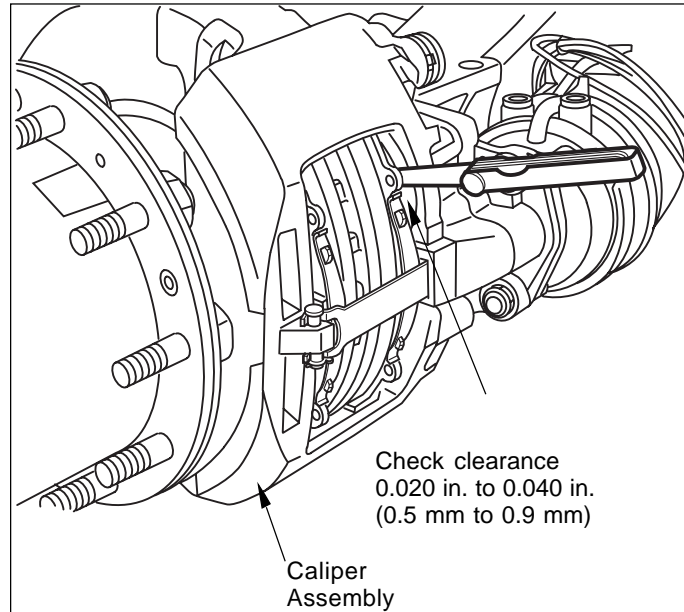

Figure 8 - Running Clearance Check
Clearance Check and Adjustment (Figure 8)
3. Insert 0.28 in. (0.7 mm) thickness gauge between tappet and inboard pad backplate (Figure 8).